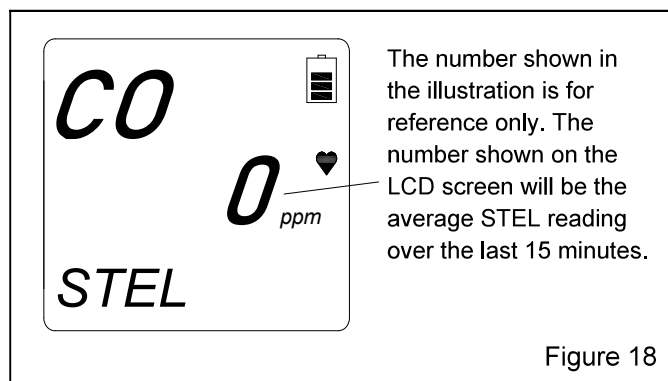

Figure 18
4.3.6 Displaying the STEL Screen – Figure 18